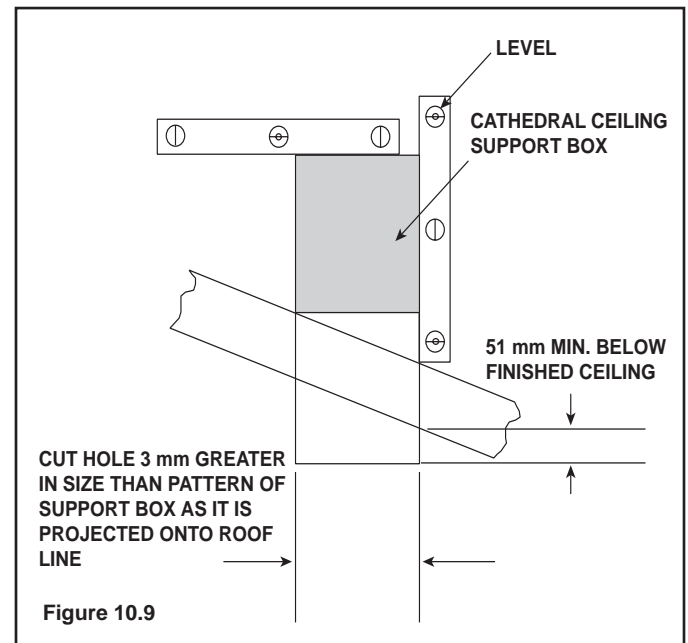

Figure 10.9
- Lower the support box through the hole in the roof until its bottom is at least 51 mm below the ceiling (Figure 10.9).